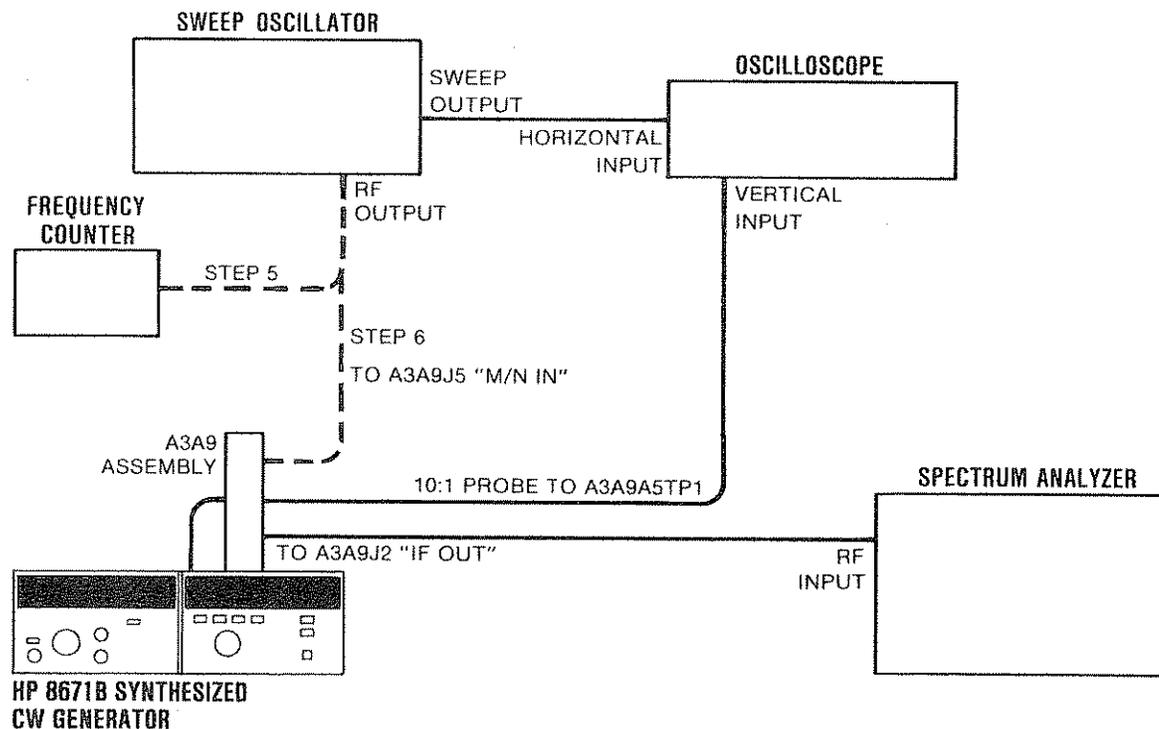

Figure 5-6. YTO Loop Sampler Adjustment Test Setup
6. Connect the equipment as shown in Figure 5-6. Connect the CW Generator's mains power cord and set the LINE switch to ON.